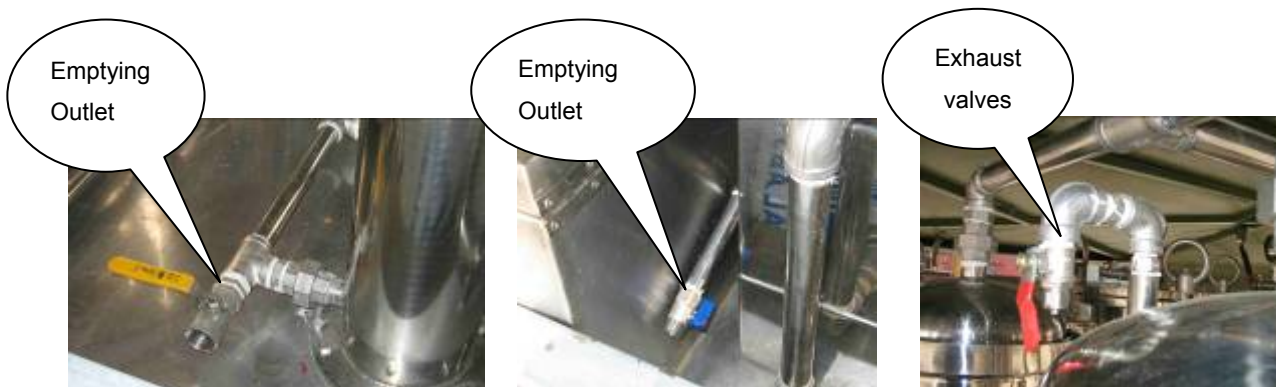

Fig. 3.6-1
- 2) Turn on the exhaust valves and evacuating valves of all the filters(see Fig. 3.6-1).